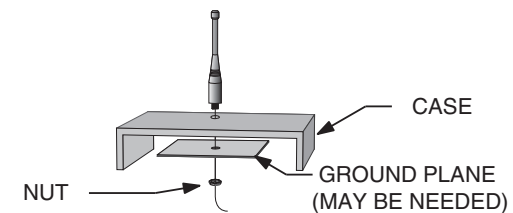

Figure 26: Remote Ground Plane
6. In some applications, it is advantageous to place the module and antenna away from the main equipment (Figure 26). This can avoid interference problems and allows the antenna to be oriented for optimum performance. Always use 50Ω coax, like RG-174, for the remote feed.